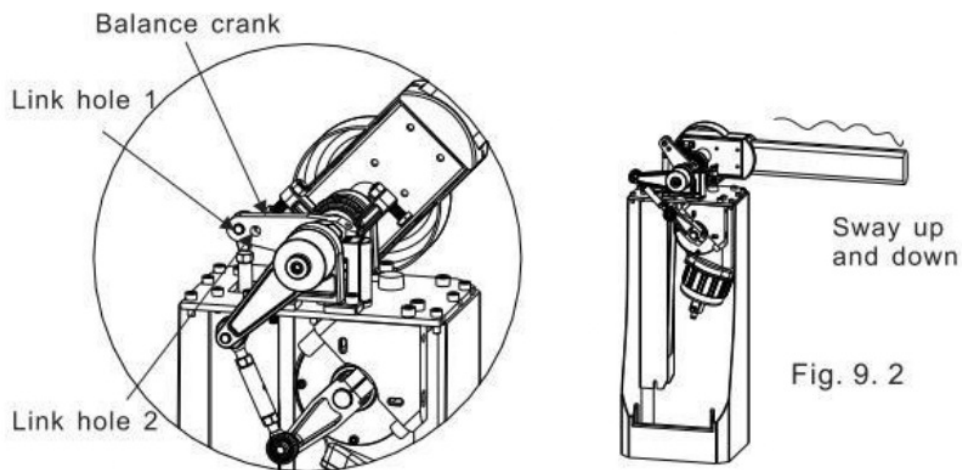

Fig. 8
5) If the boom is vibrant too much when it backtracks in case of coming across any obstacle,please try as follow:(refer to fig.8)